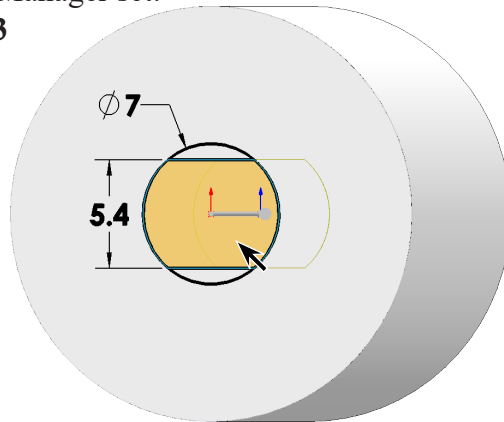

Fig. 34
Step 11. Rotate view to **view depth of cut**, **Fig. 34**. Use **Left Arrow key**  **once**.
click **contour**, **Fig. 34**